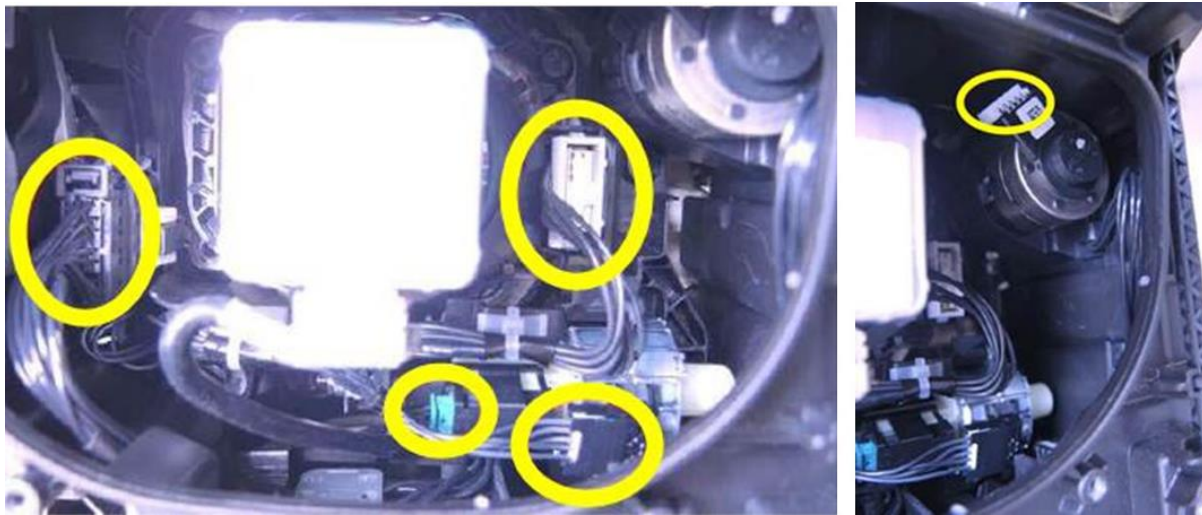

Figure 1. Check these connectors on vehicles with PR codes 8Q3, 8Q5, and 8Q7.
- If the vehicle is equipped with one of the following PR codes, check the connectors shown below (Figure 1):